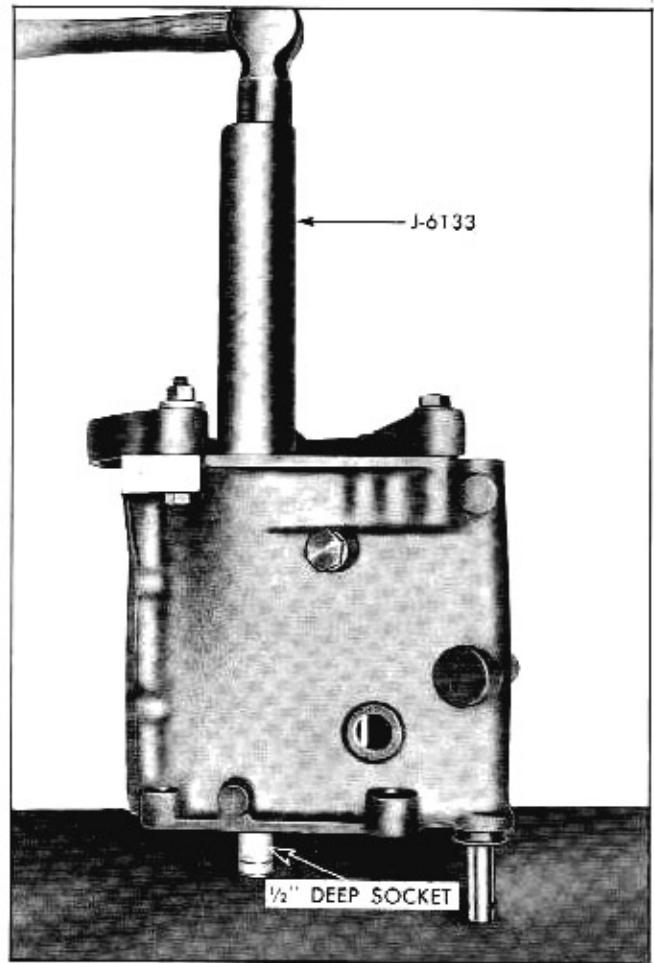

Fig. 7-48 Making Snap Ring Groove Accessible
23. Install $\frac{1}{2}$ " deep socket in clutch gear and continue to drive on mainshaft bearing until the snap ring groove on mainshaft is accessible (Fig. 7-48). Remove $\frac{1}{2}$ " deep socket.
24. Install snap ring. Check end play of mainshaft by inserting feeler gauge between snap ring and bearing inner race. Final end clearance must be .004" maximum. Change to applicable thickness snap ring if original does not meet this limit. Snap rings are available in four (4) thicknesses, ranging from .086" to .097". **NOTE:** After making this check, drive mainshaft forward into case until snap ring contacts bearing inner race.